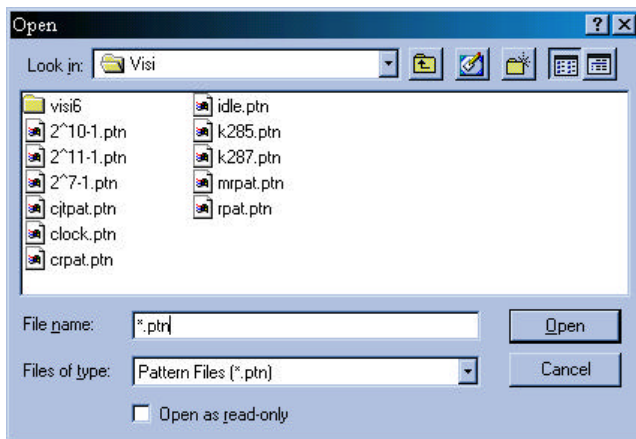

Figure 4. Load Pattern Window
- 2) On the Main Armgen Dialog bar, select **Pattern**. Under the Pattern Dialog Bar select **Load Pattern**. A window will appear (see figure 4) containing a list of preloaded pattern types from which to choose. Select the pattern to be matched.
- 8) On the Main Dialog Bar, select **Automatic**. In the following Arming Dialog Bar (see Figure 4), select **Perform Placement**. The AG-100 analyzes the data coming into the unit and automatically places the marker in a low transition density region of the pattern.
- 2) On the Main Armgen Dialog bar, select **Pattern**. Under the Pattern Dialog Bar select **Load Pattern**. A window will appear (see figure 4) containing a list of preloaded pattern types from which to choose. Select the appropriate pattern.